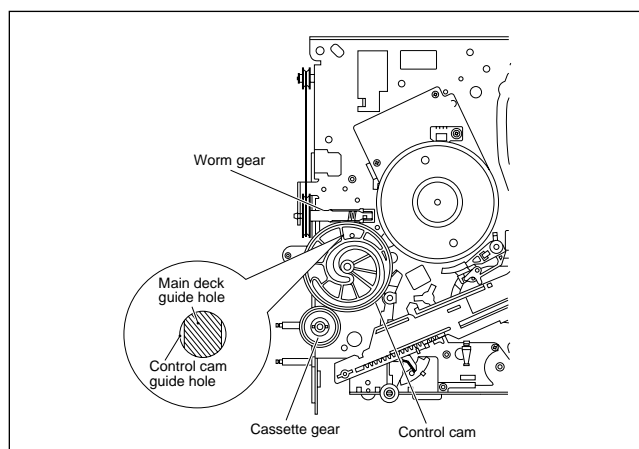

Fig. 2-2-13c
- (2) Rotate the worm gear until the guide hole of the control cam is aligned exactly with the guide hole of the main deck. (See Fig.2-2-13c.)